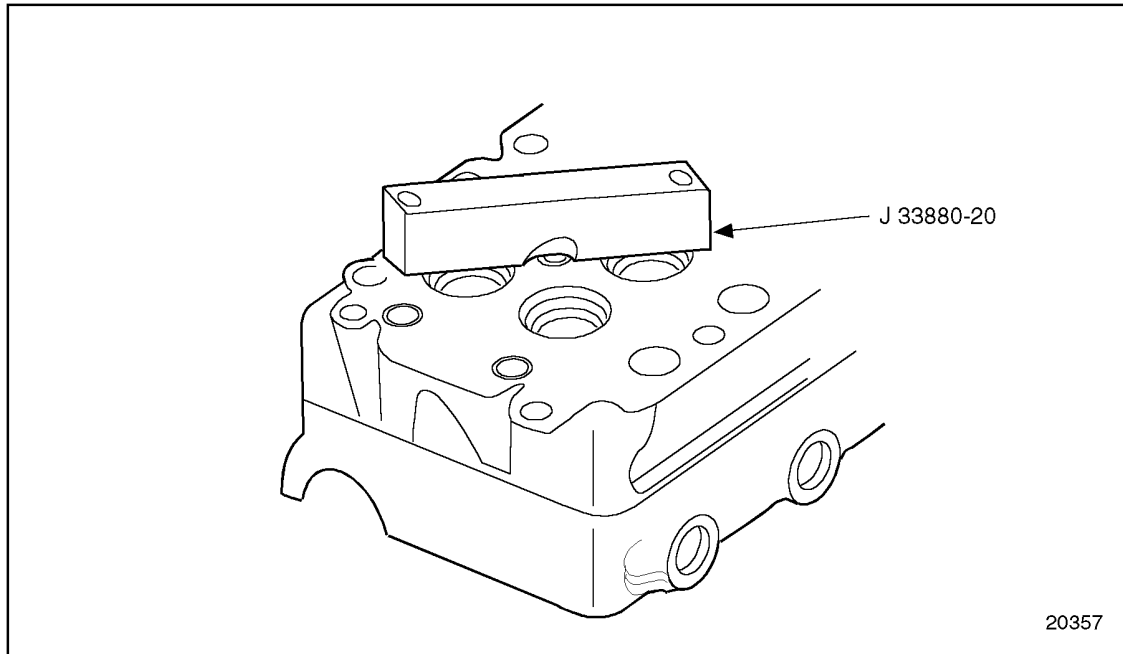

Figure 2-22 Stop Block Installed on Cylinder Head
6. Install the stop block tool, J 33880-20 part of J 33880, to the firedeck of the cylinder head using two existing head bolts. Tighten the head bolts, but do not torque. Position the cut out portion of the stop block beneath the injector tube. See Figure 2-22.